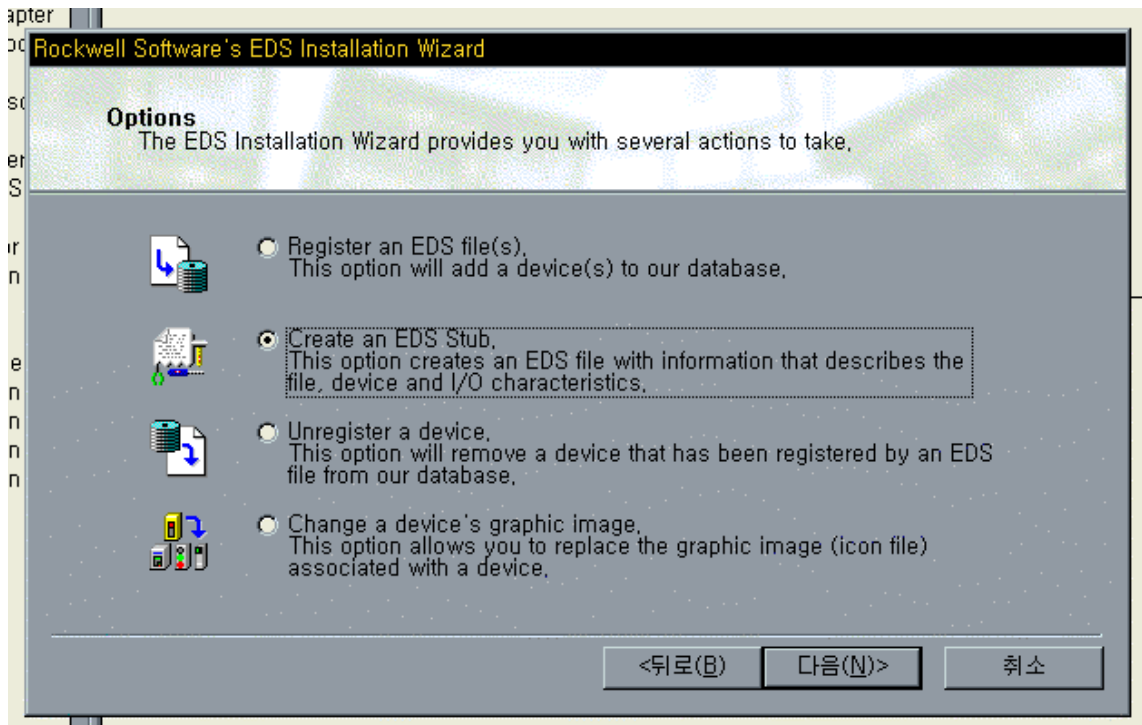

Figure 3-2. EDS Installation Wizard
EDS Installation Wizard dialog box is displayed as Figure 3-2. After selecting Create an EDS Stub Radio button, press (N)> button.